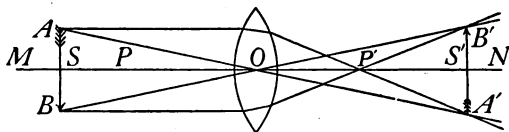

FIG. 383.—Construction of a real image by a convex lens
right angles to its greatest diameter and along this axis are certain definite positions as shown in Fig. 383. Let *MN* be the *principal axis* of a convex lens, *P* and *P'* are *principal foci* on either side of the lens, *S* and *S'* are *secondary foci*. These are at points on the principal axis that are twice as far from *O*, the center of the lens, as are the principal foci. In the formation of images by a convex lens, several distinct cases may be noticed:
(A) If a luminous body is at a *great distance* at the left, its light is brought to a *focus* at *P*, or its *image is formed* at *P*. (B) As the *object approaches* the lens the *image gradually recedes* until the object and image are at *S* and *S'*, *equally distant from O* and of *equal size* (as in Fig. 383). The object and image are now said to be at the *secondary foci* of the lens. (C) As the *object moves from S to P* the image recedes, rapidly increasing in size until (D) when